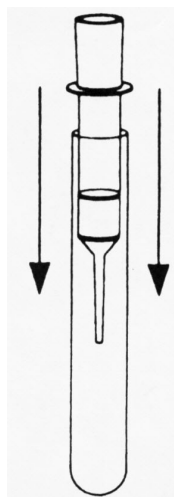

Fig. 1: Mounting the sealing ring to the column.
- 5 Mount the sealing ring to the column (Fig. 1) to fix the column in the collection tube.